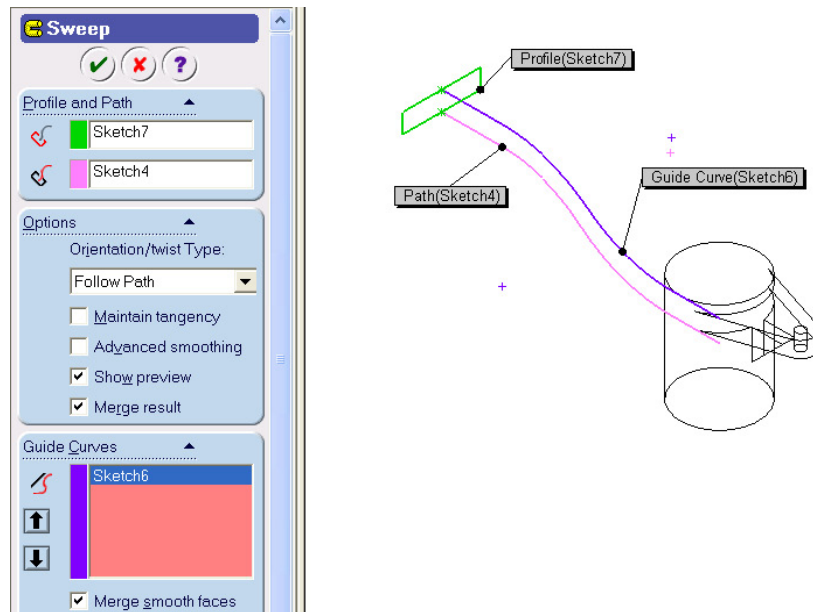

Figure 13 Sweep parameters.
25. Select the guide curve in the **Guide Curves 4** box as in Figure 13.